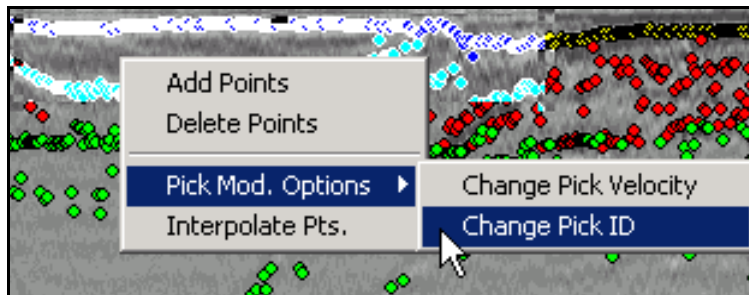

Figure 80: Layer Modification Options submenu.
- **Change Pick ID** allows the user to change the layer number assigned to the picks located within the selected region. For example, the user desires to change the layer # of a group of layer 3 picks to layer 2. The user must select layer 3 as the Current Layer, position the Select Block (or Select Range) over the group of points and click the right mouse button to access the pick modification options shown in Figure 80. Clicking on Change Pick ID will open a dialog box for entering the desired layer number. After changing the layer number, the color of the selected picks will change to the color of the new layer.